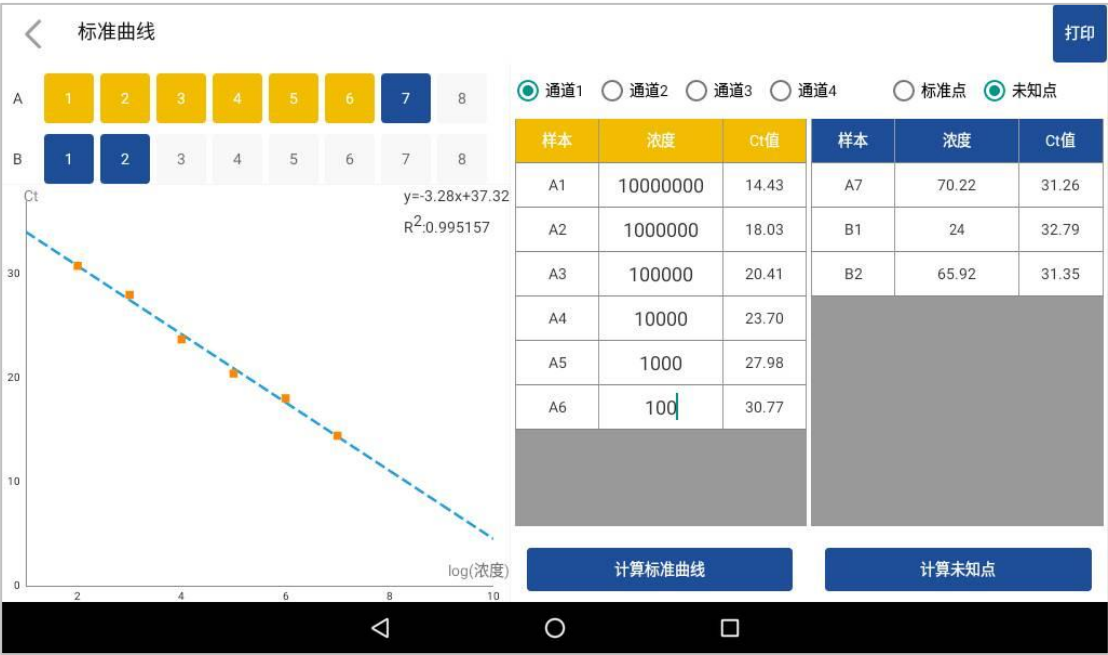

Figure 4.5-4 Standard curve interface
- d. Click the "Filter" button in the upper right corner to enter the page in Figure 4.5-4 and select the well and channel for data analysis.
interface (see Figure 4.5-4).